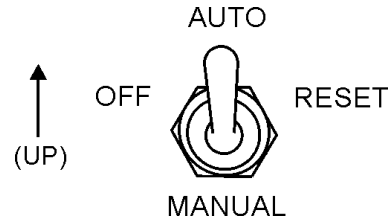

Figure 41. Off/Manual Auto Switch (AUTO)
2. Place the Off/Manual/Auto switch (Figure 41) in the **AUTO** position (up). The engine may not crank.